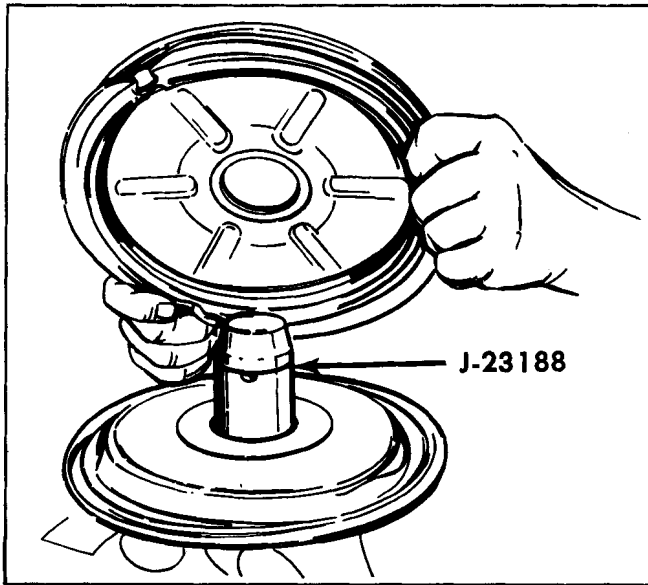

Fig. 5D-18 Installing Housing Divider
31. Hold housing divider with formed flange (that holds the primary diaphragm) facing up. Press divider down over tool and onto secondary power piston tube where it will rest against diaphragm support ring (Fig. 5D-18). Remove Tool J 23188 from secondary power piston, however, do not remove secondary power piston subassembly from Tool J 23101.